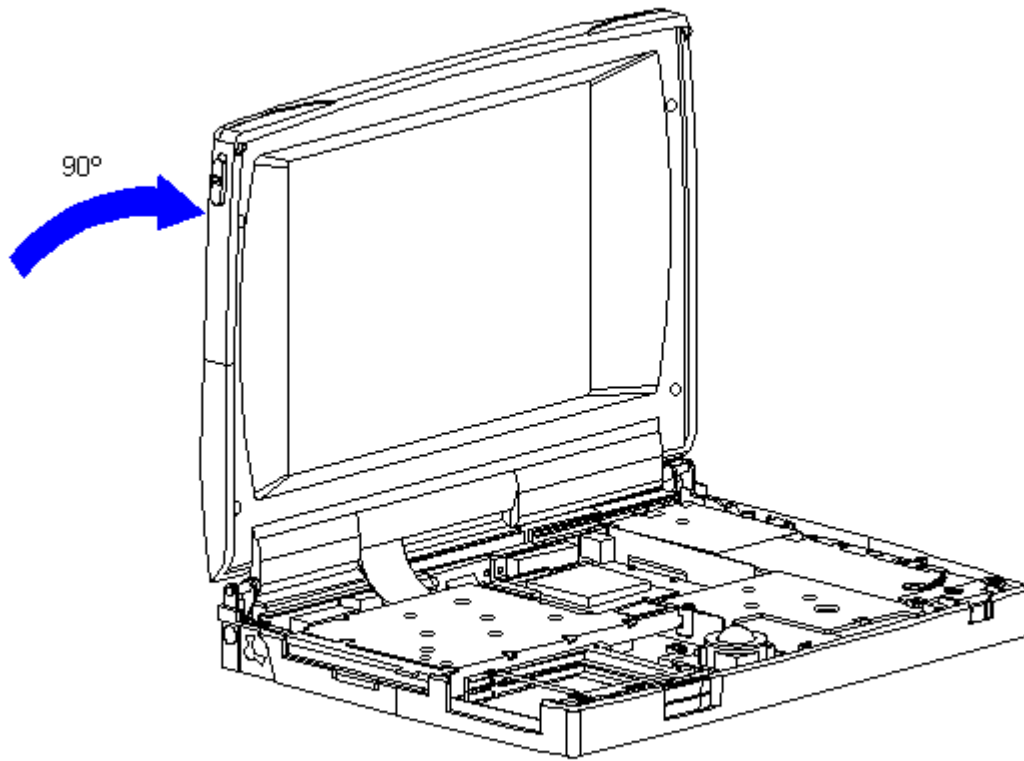

Figure 3-180. Opening the Display (All Models)
29. Open the display to a 90-degree angle (Figure 3-180).